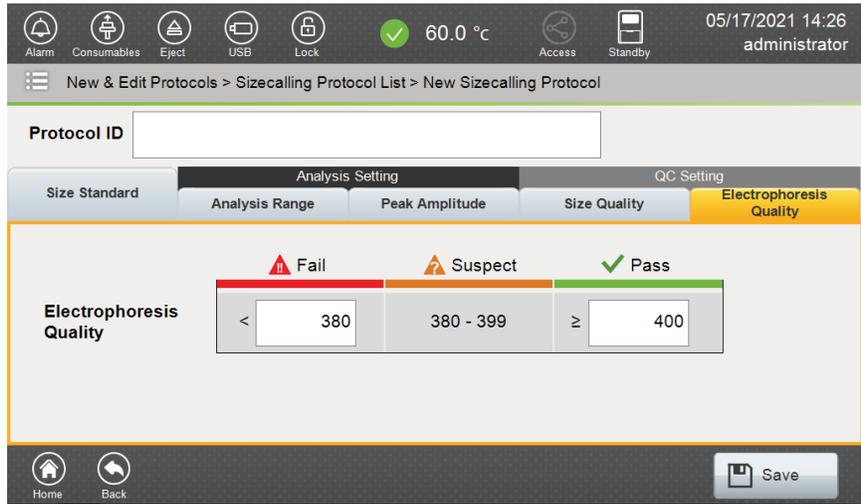

Figure 134. 'Electrophoresis Quality' tab.
Electrophoresis Quality	<p>Defines the EQ values (in bp) for passing and failing data. Sizing data that fall between these values will be flagged as 'Suspect' (data should be manually reviewed in 'Result' tab to determine whether or not it is acceptable to the user or requires reinjection).</p> <p>See 'Result' Tab in Section 5.7 for definition of EQ.</p> <p>Note: Default values are supplied when creating a new sizecalling protocol but may be edited by the user. The EQ range allowed by the software is 1 to 1,000. The numerical value for Fail must always be lower than the numerical value entered for Pass (Figure 134).</p>
- Select the 'Electrophoresis Quality' tab to reveal the default settings for minimum passing and maximum failing EQ values (Figure 134). These parameters can be changed when creating a new sizecalling protocol.